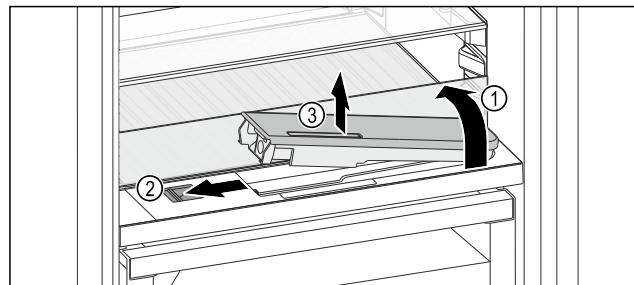

Fig. 126
- Lift the glass panel and fold towards the rear until it clicks into place Fig. 126 (1).
- Slide the slider Fig. 126 (2) to the left.
- Remove the water tank Fig. 126 (3).